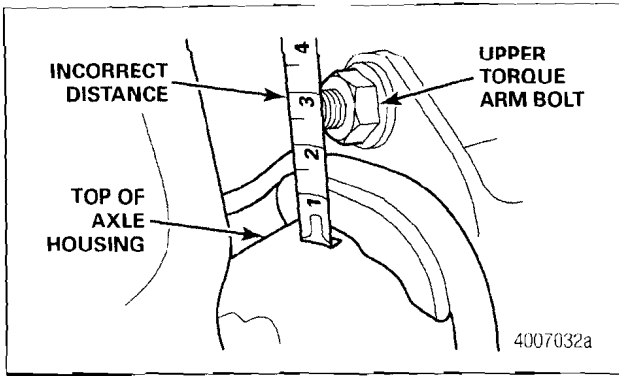

Figure 2
- A distance of 2.625 inches from the axle housing to the center of the upper torque arm bolt is incorrect. Figure 2.